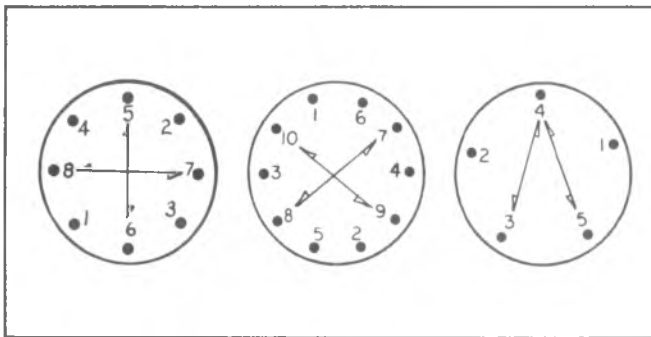

Fig. 4—Wheel Nut Tightening Sequence
3. Torque nuts to specified torque in sequence shown in Figure 4.